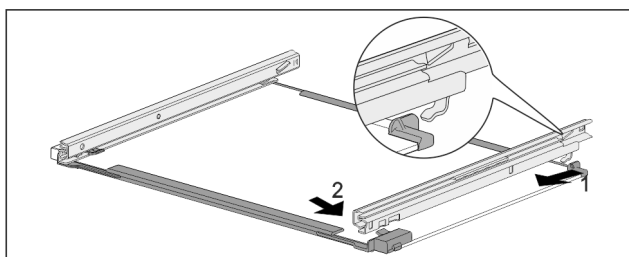

Fig. 72 Glass shelf with rails
- Hook in rail at the back. Fig. 72 (1)
- Hook in rail at the front. Fig. 72 (2)